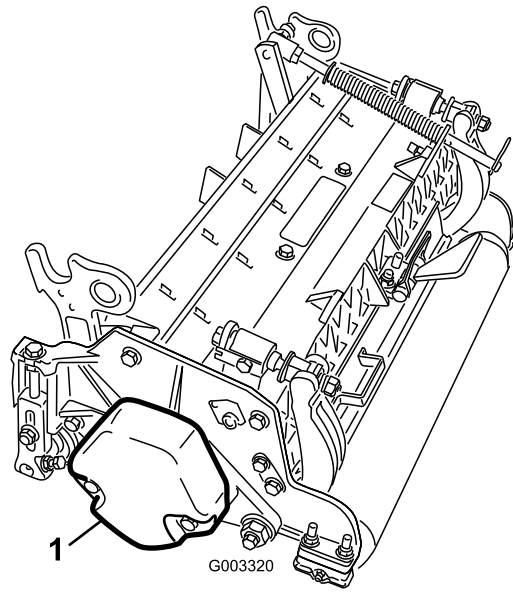

Figure 9
- 5. Make sure that the counter weight (Figure 9) is installed to the proper end of the cutting unit as described in the cutting unit *Operator's Manual*.